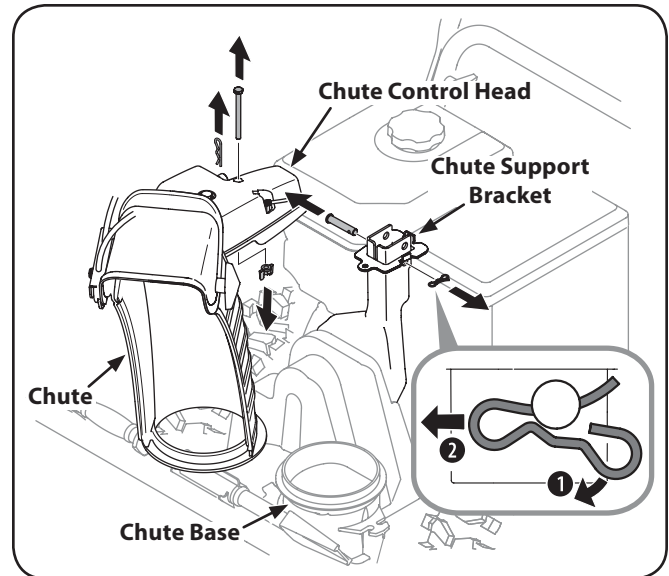

Figure 3-6
1. Remove cotter pin, wing nut and hex screw from chute control head. Remove clevis pin and bow-tie cotter pin from chute support bracket. See Fig. 3-6.